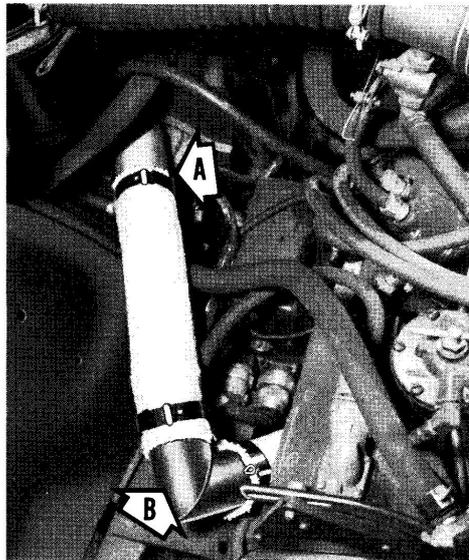

Fig. 23. (A) Exhaust tube connected to heater exhaust outlet. (B) Exhaust tubes connected at elbow.
- b. Connect one end of the 13" exhaust tube to the engine heater exhaust outlet, Fig. 23.
- c. Connect the exhaust tubes at the elbow, Fig. 23.